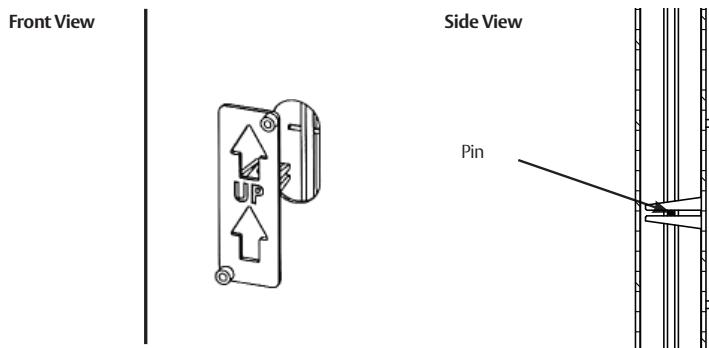

Figure 27
2. Continue holding key, rotate lever with other hand and open door. (Figure 27)
- Place the plastic field template on the pin in the top rod through the oval cut-out in the door. (Figure 27)